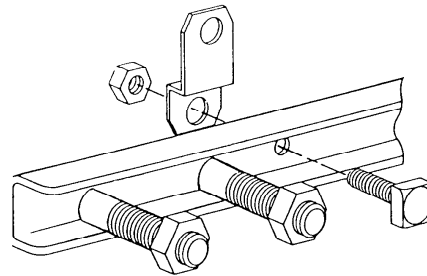

FIGURE 32- AERIAL SUSPENSION PLATES
18.02 Aerial applications require that the suspension plates be installed to the back LOCKBAR Fastener prior to its application to the Splice Case. Special holes are provided on either side of the back LOCKBAR Fastening Assembly for this purpose. (Figure 32)